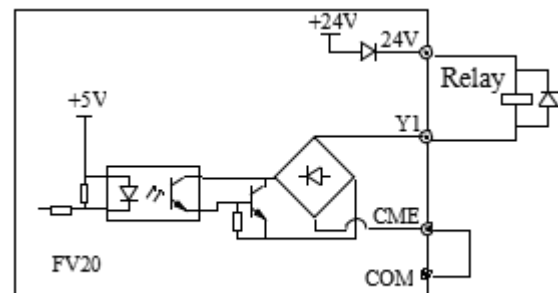
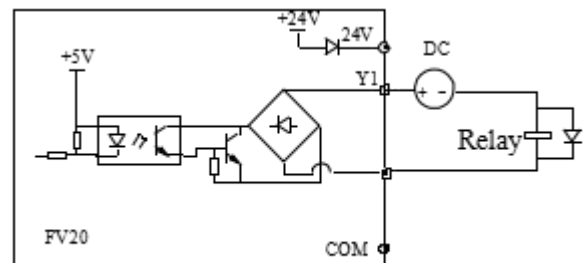

Fig 4-13 Wiring method 1 of multi-function output terminal Y1
Fig 4-14 Wiring method 2 of multi-function output terminal Y1
1. Multi-function output terminal Y1 can use the internal 24 power supply, the wiring is as shown in Fig.4-13
2. Multi-function output terminal Y1 can use the external 24 power supply too, the wiring is as shown in Fig.4-14.
5. The resistors R in Fig. 4-13 and Fig.4-14 should be removed for 24V input relays, and the resistance of R should be selected according the parameters of relay for non-24V relay.